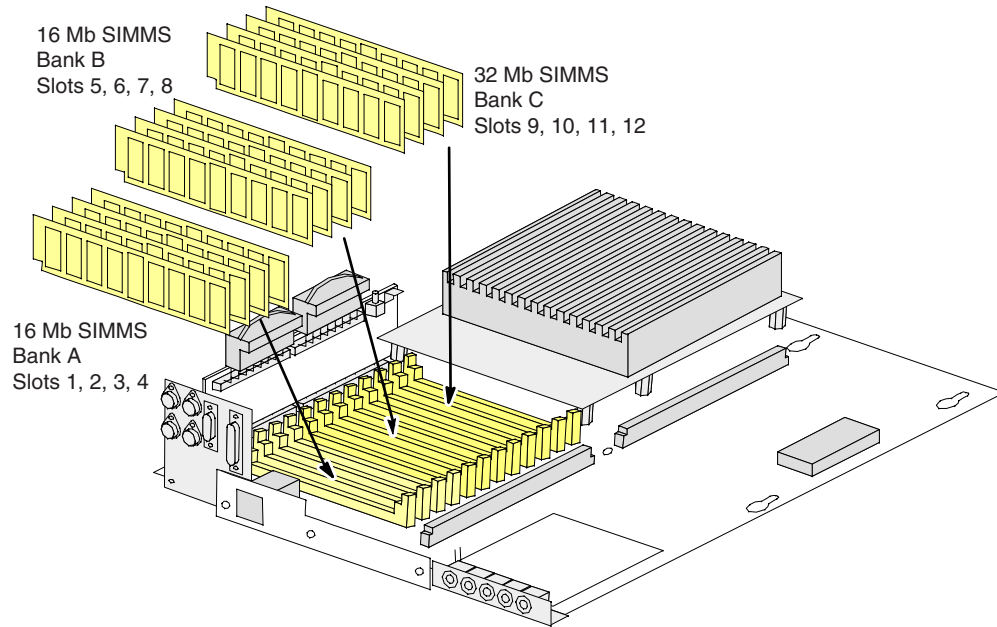

Figure 8-63 Indigo2 SIMM Memory Configuration
Note: Remember that SIMMs must be installed in groups of four (4). See Figure 8-63. These groups must also be of the same memory capacity and type. (e.g., four 16Mb SIMMs in slots 1, 2, 3, and 4.)